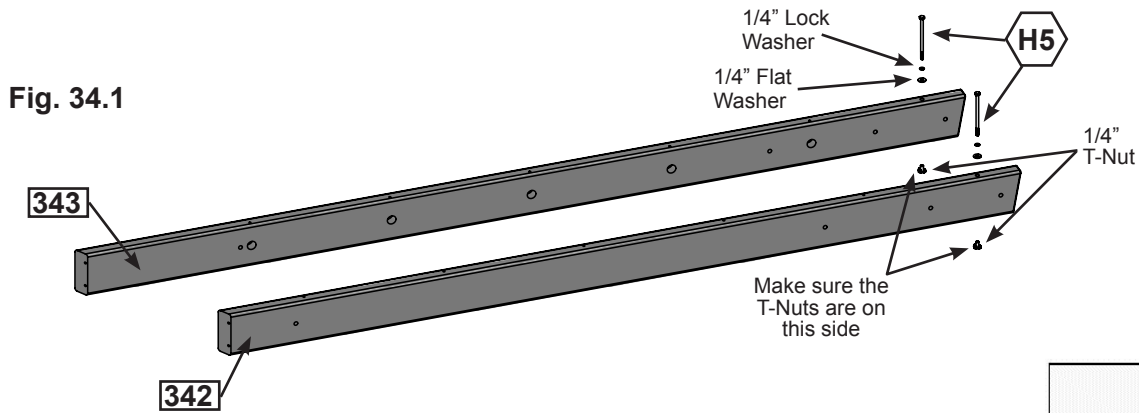

Fig. 34.1
**A:** Insert 5 (341) Dowels into both (342) Tunnel MK Rail Right and (343) Tunnel MK Rail Left. (Fig. 34.1 and 34.2)
**D:** Attach 1 (H5) Hex Bolt (with lock washer, flat washer and t-nut) to (343) Tunnel MK Rail Left and (342) Tunnel MK Rail Right. **IMPORTANT! MAKE SURE THE BOLT IS ATTACHED TO MINIMIZE CHECKING OF WOOD.** (Fig. 34.1)